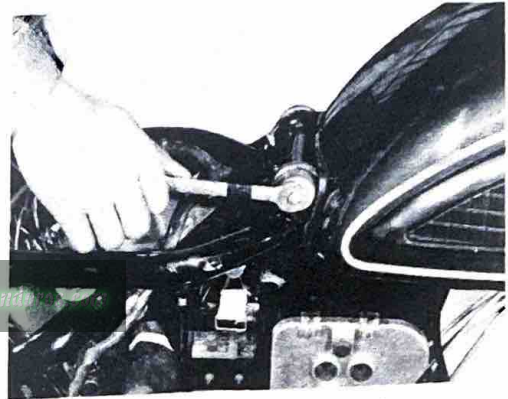

Fig. 5-8-4
- 4) Remove the tank mounting bolts. (Fig. 5-8-4)